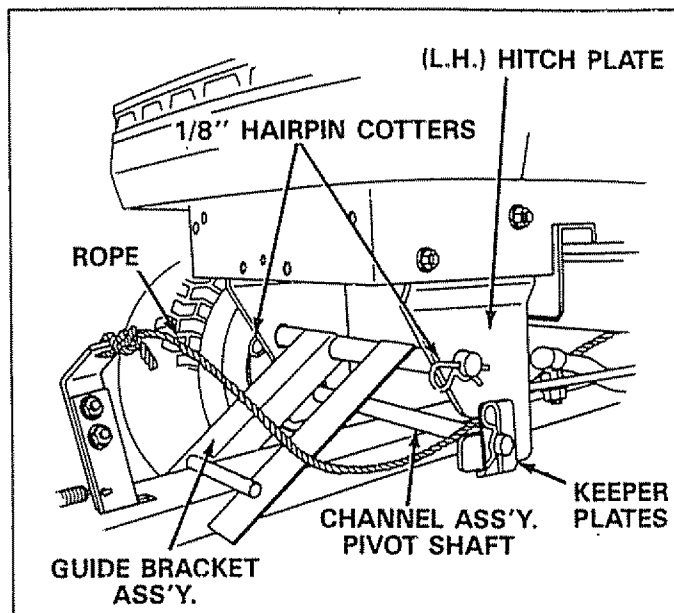

FIGURE 20
- Refer to figure 20 below and remove 1/8" (large) hairpin cotters from ends of guide bracket assembly and remove guide bracket assembly.
- Refer to figure 20 above and remove 1/8" (large) hairpin cotters from ends of channel assembly pivot shaft and remove keeper plates. Lift the channel assembly pivot shaft out of the hitch plates and lower channel to the ground.
Hitch plates do not require removal for re-assembly of mower deck. See figure 20.